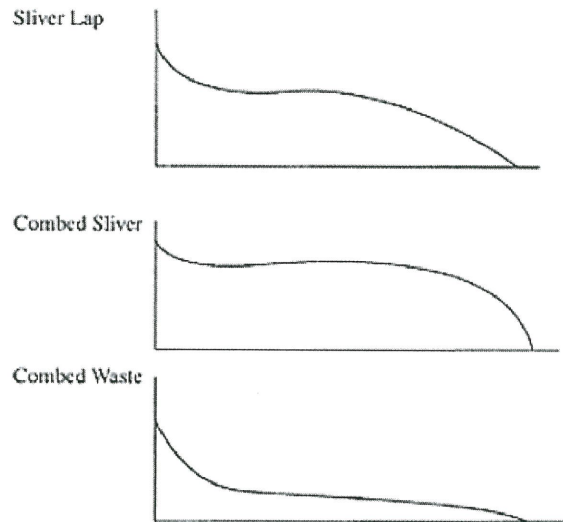

FIGURE Q2
- (b) **Figure Q2** shows the graph of Effective Length versus % of fibers. Analyze the graph. (4 marks)